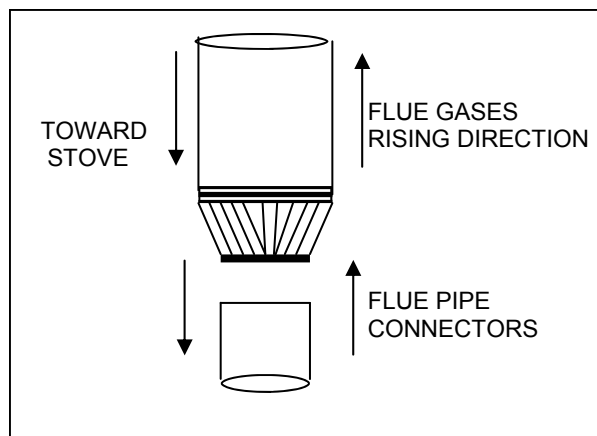

FIGURE 2
- 7) Position the stove in its final location and connect the chimney connector pipe (see Figure 2) and the combustion air supply. Note: the chimney connector pipe is installed with the crimped end down toward the stove, and each joint must be secured with 3 sheet metal screws.
- 6) Position the stove in its final location and connect the chimney connector pipe (see figure 2) and the combustion air supply.